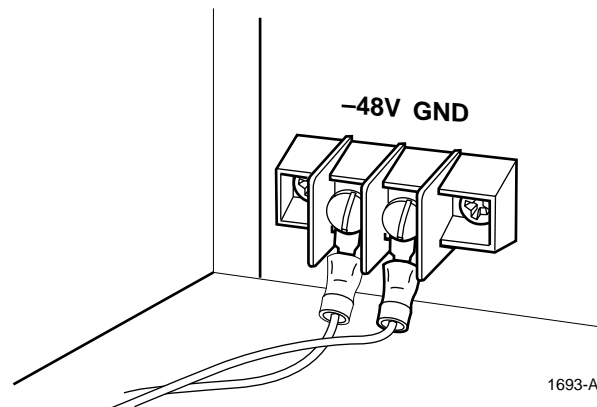

Figure 4. Power Connections
3.02 Connect 22 AWG wires from the respective 48 V and GND terminals on the back of the chassis, as shown in **Figure 4**. Route and connect the 48 V to the NEG (-) wire wrap pin, and the GND to the POS (+) wire wrap pin, located on the rear surface of the fuse panel as shown in **Figure 5**.